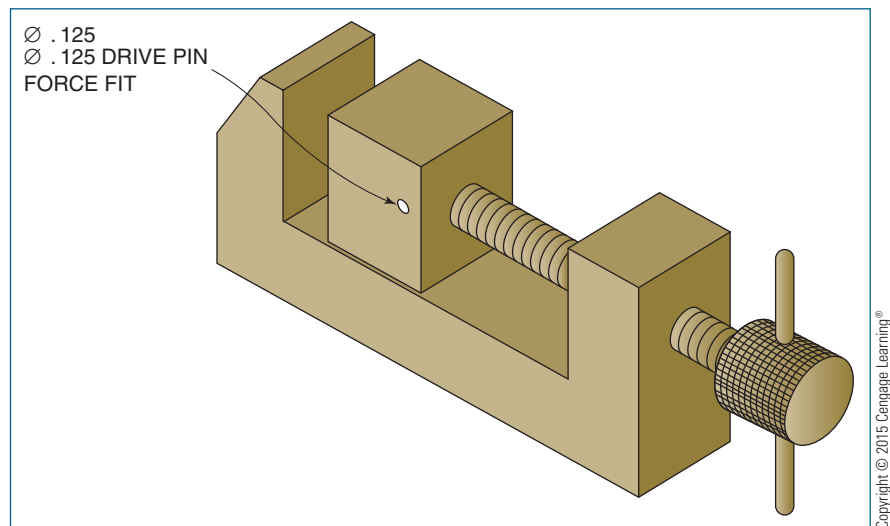

Figure 1-8 Pictorial drawing.
- **Pictorial drawings** are three-dimensional (3D) drawings that show an object as in a photograph (**Figure 1-8**). Usually three adjacent surfaces are shown in one drawing (See Chapter 15).